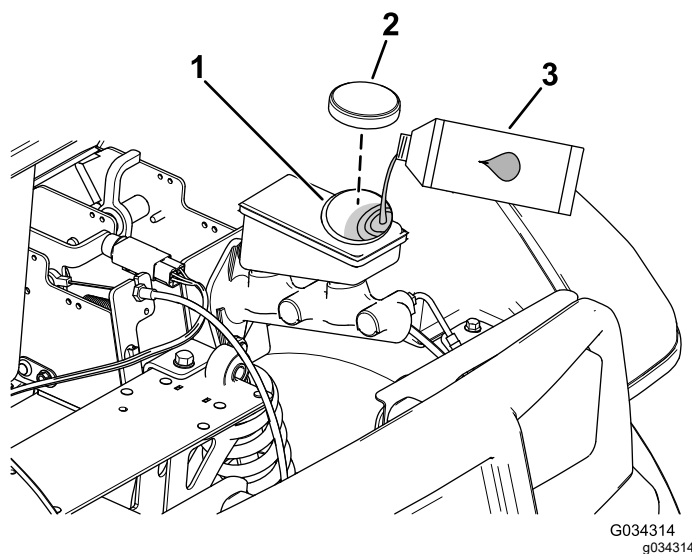

Figure 57
2. Raise the hood to gain access to the master-brake cylinder and reservoir (Figure 57).
- A. Clean the area around the reservoir cap and remove the cap (Figure 57).
- C. Install the reservoir cap (Figure 57).